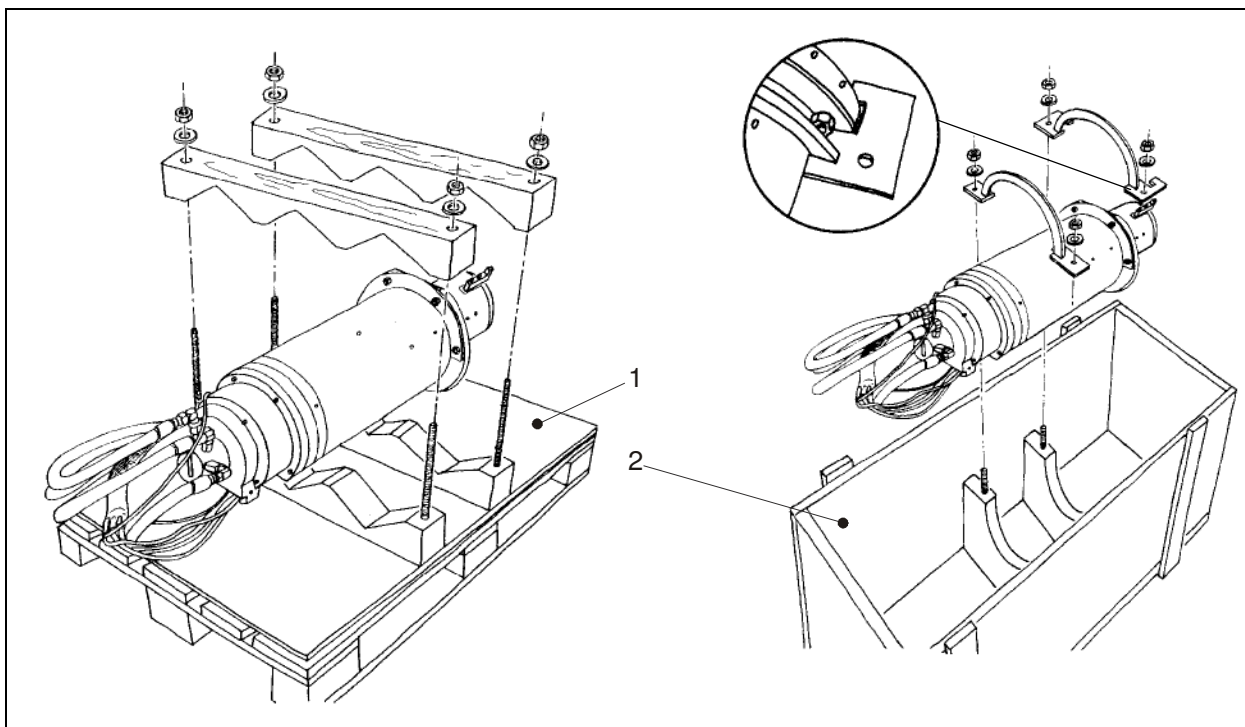

Fig. 4 Transport diagram motor spindle
- The motor spindle must be kept preserved in a transport crate (see Fig. 4).